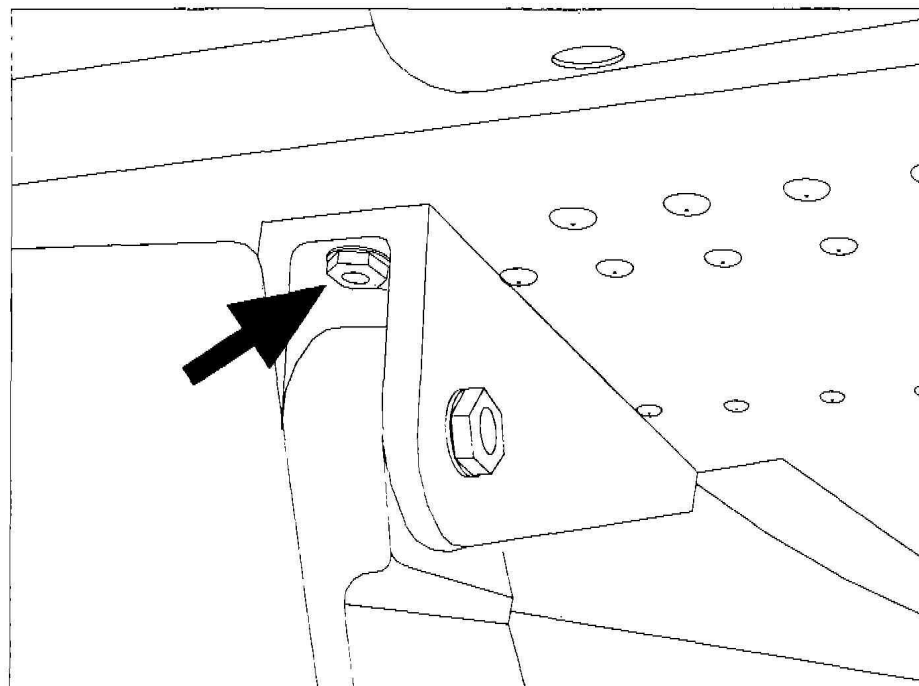

Figure 1 - Horizontal Stabiliser Attach Bolt
Visually inspect the integrity of the rearmost vertical Horizontal Stabiliser attach bolt and nut on both left and right sides, see Figure 1 below. This inspection can be carried out externally to the aircraft without removing any fairings or structure.
- (a) Remove the rearmost vertical Horizontal Stabiliser attach bolt and nut from both left and right sides as indicated in figure 1.